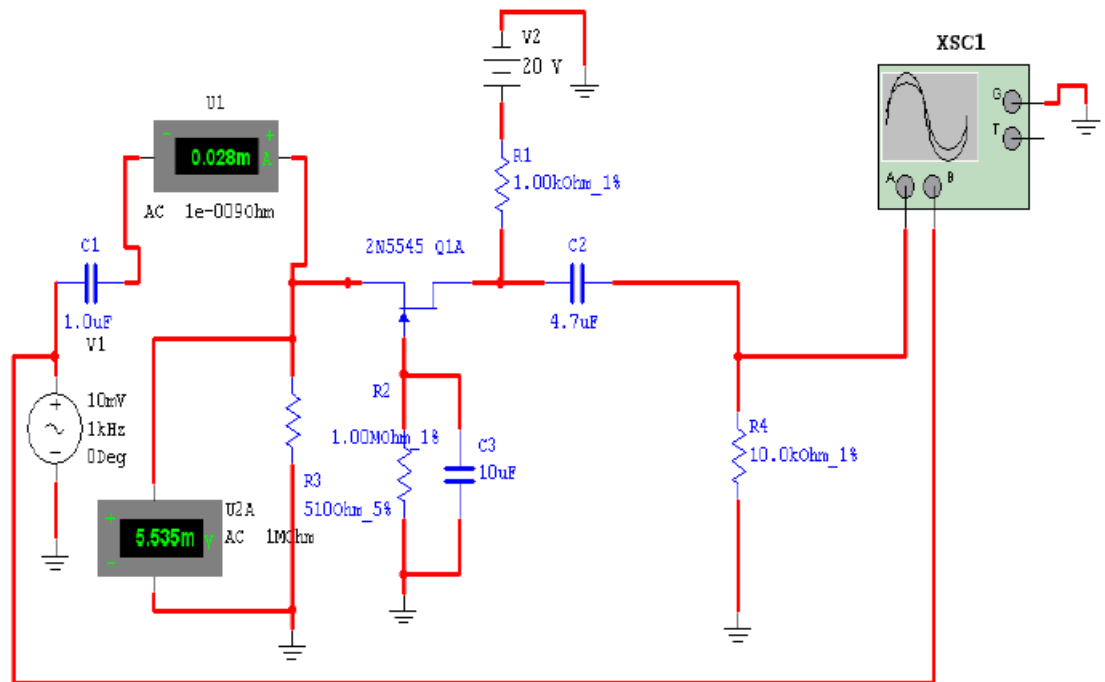

Fig.17 CG amplifier connected to measure Z_{in}
- Connect an AC ammeter to measure I_{in} ; Fig.17.
- Connect an AC voltmeter to measure V_{in} ; Fig.17.